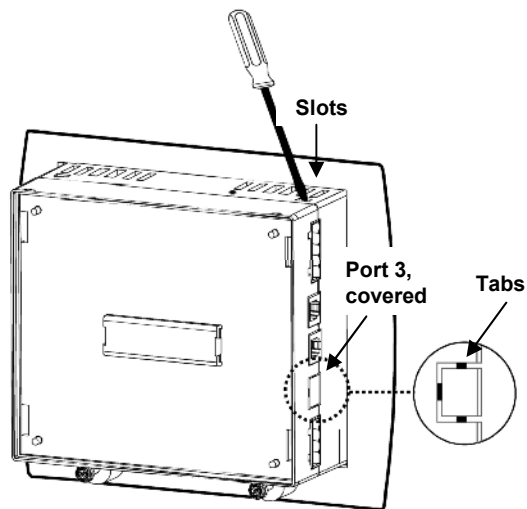

Figure 1. Opening the Controller
2. The port's location, COM 3, is covered by plastic. Remove the plastic covering using a razor cutter to cut through the tabs shown in Figure 1.
3. The port's location, COM 3, is covered by plastic. Remove the plastic covering using a razor cutter to cut through the tabs shown in Figure 1.